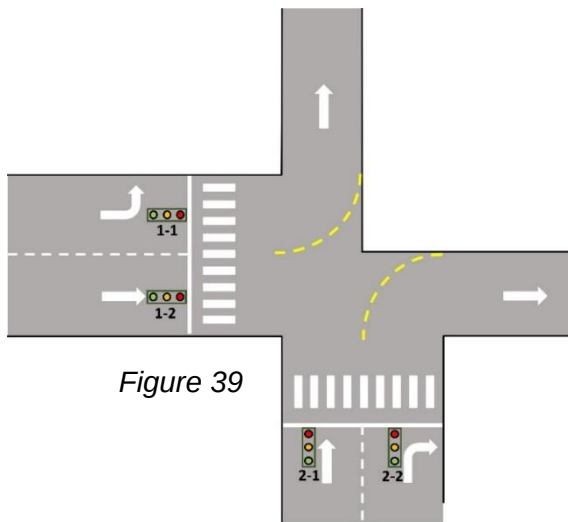

Figure 39
- “Draft Layout_4 lights” **Figure 39**